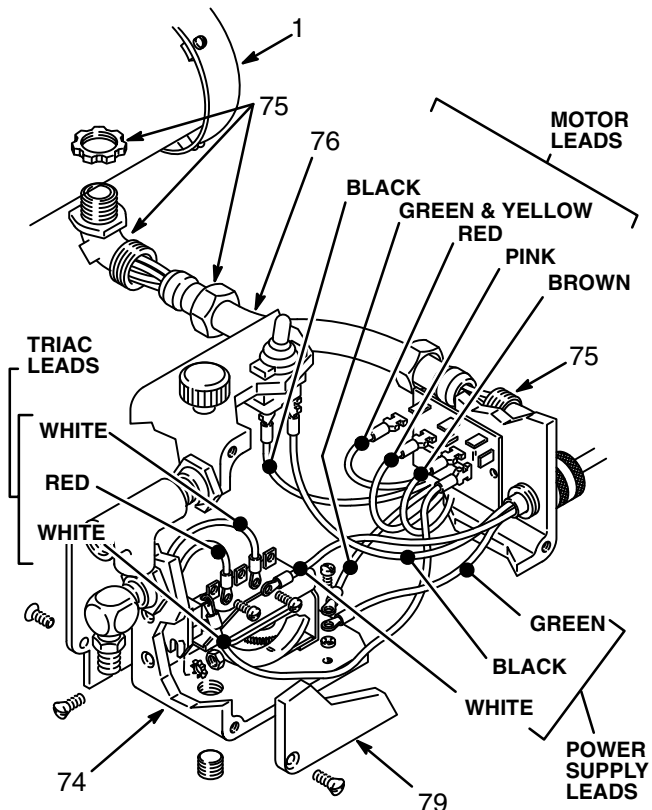

Fig 8
Remove the screws (78) and the cover (79) from the pressure control (74). See Fig 8.